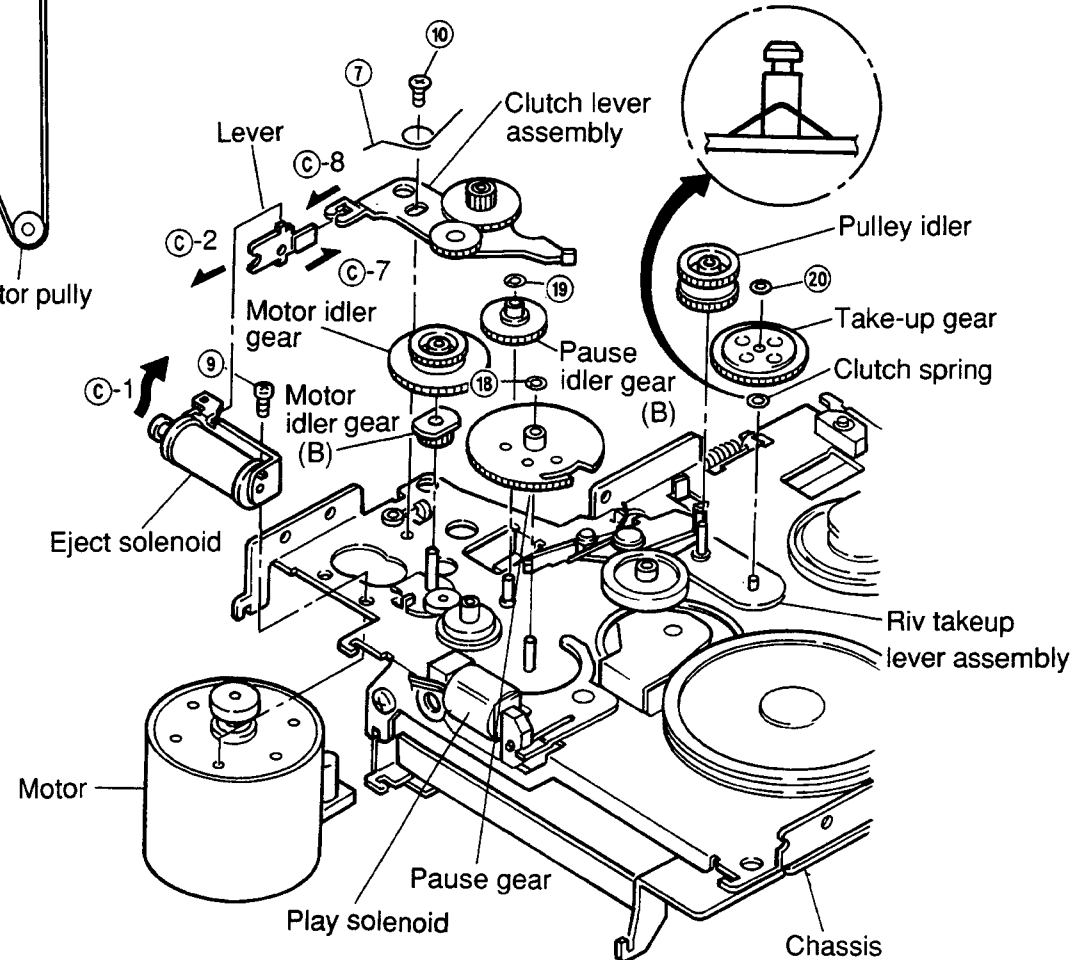
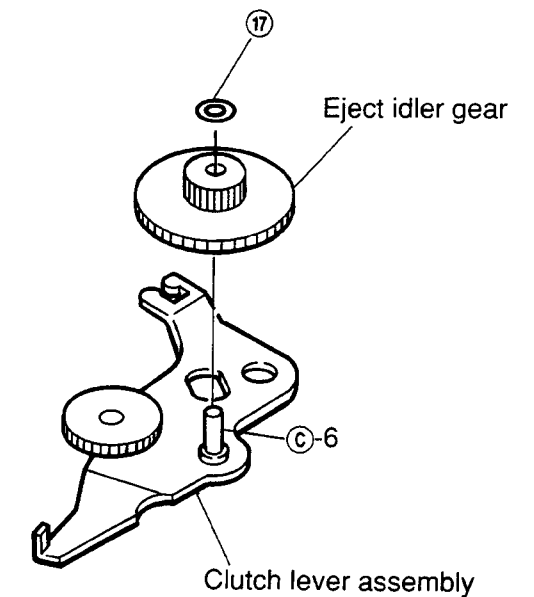

Figure 10
Figure 15
- (1) After removing the belt, remove spring ⑦ as shown in Figure 10.
- (3) Remove two screws ⑨ and ⑩, and remove the motor, taking care not to damage the motor idler gear. (Refer to Figure 10.)
- (4) Mount the new motor following the removal steps in the reverse order.
- (2) Remove screw ⑨ and remove the play solenoid as shown in Figure 10.
- (3) Align position ③-1 of the new solenoid with position ③-2 of the lever and fasten the screw as shown in Figure 10.
- (4) Lead the wire through the tube and solder it.
- (1) After removing the motor, remove the motor idler gear and the motor idler gear (B) and remove the clutch lever assembly as shown in Figure 10.
- (2) Remove M1.2 lock washer ⑰ and remove the eject idler gear as shown in Figure 15.
- (3) Mount the new gears and clutch lever following the removal steps in the reverse order.
Note: When mounting the gears to the lever, apply grease (FLOIL 425A) to the position ㉑-6 as shown in Figure 15. Align the position ㉑-7 with the position ㉑-8 and mount the clutch lever as shown in Figures 10 and 15.
- (1) Remove M1.2 lock washer ⑱ and remove the pause gear pulling it up from the stud of the chassis as shown in Figure 10.
- (2) Mount the new gear following the removal steps in the reverse order.
- (1) After removing the motor and the motor idler gear, remove M1.2 lock washer ⑲ and remove the gear by pulling it up from the stud of the chassis as shown in Figure 10.
- (2) Mount the new gear by following the removal steps in the reverse order.
- (1) After removing the belt and the pulley idler gear, remove M1.2 lock washer ⑳ by pulling it up from the stud of the riv take-up lever assembly as shown in Figure 10.
- (2) Remount the take-up gear following the removal steps in the reverse order.